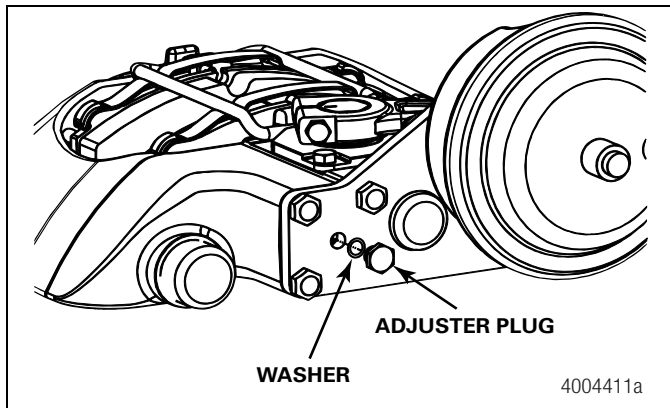

Figure 2
1. Remove the adjuster plug and washer. Figure 2.